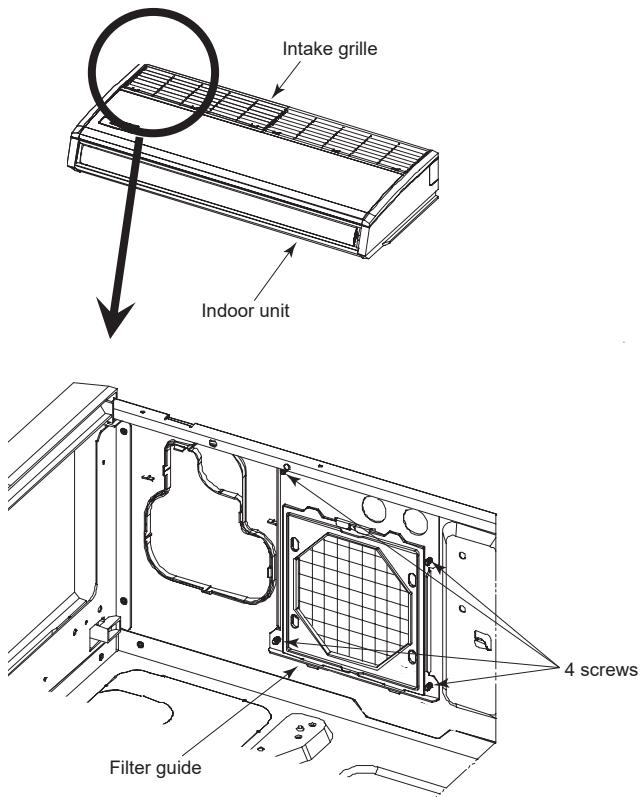
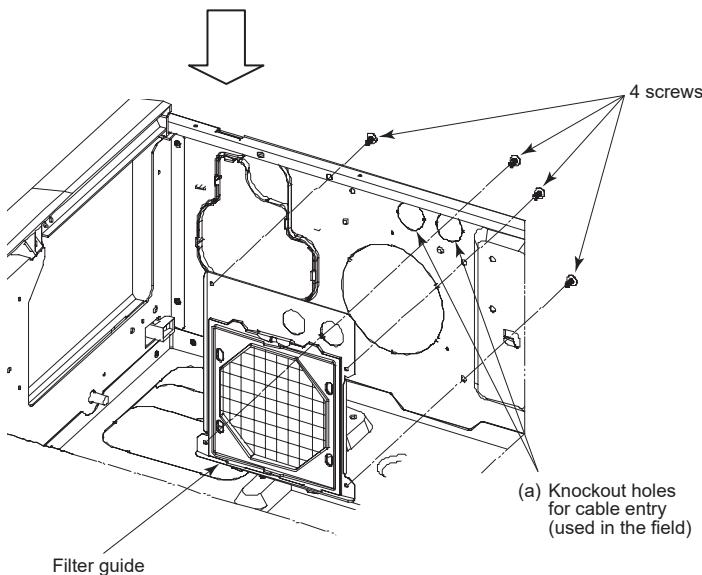

Fig. 6-6
Fig. 6-7
* Fig. 6-6 and Fig. 6-7 show the state where the intake grille was removed.